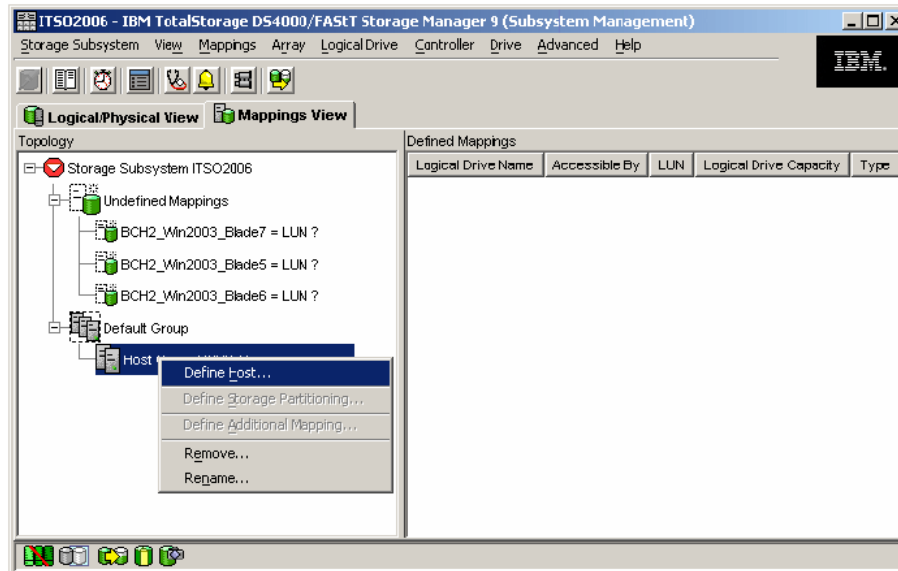

Figure 5-74 Define the host
1. Right-click the BladeCenter Host Group and select **Define Host**, as shown in Figure 5-74.